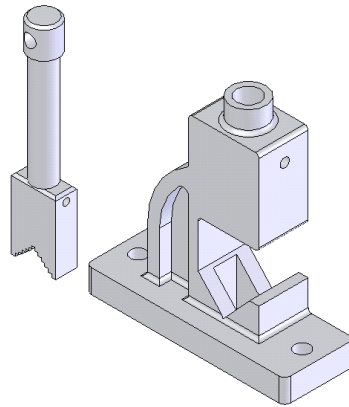

Figure 10-79 The screw assembled to the moveable jaw
11. Again, rotate the model and select the top planar face of the Moveable Jaw. Choose the **OK** button from the **SmartMates PropertyManager**. Figure 10-79 shows the Screw after applying the mates.